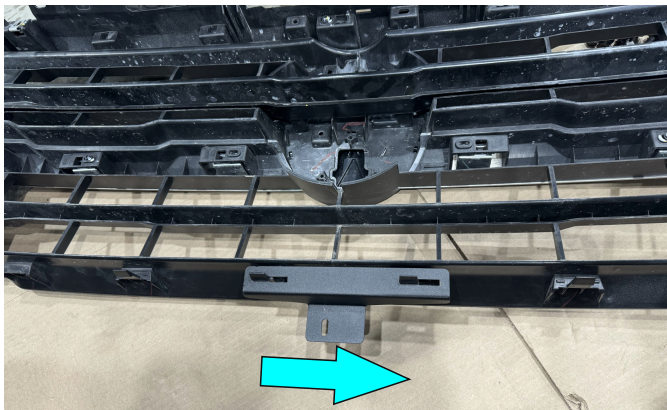

Fig.38
38. Install and slide central grille bracket (item 33) (fig.38).